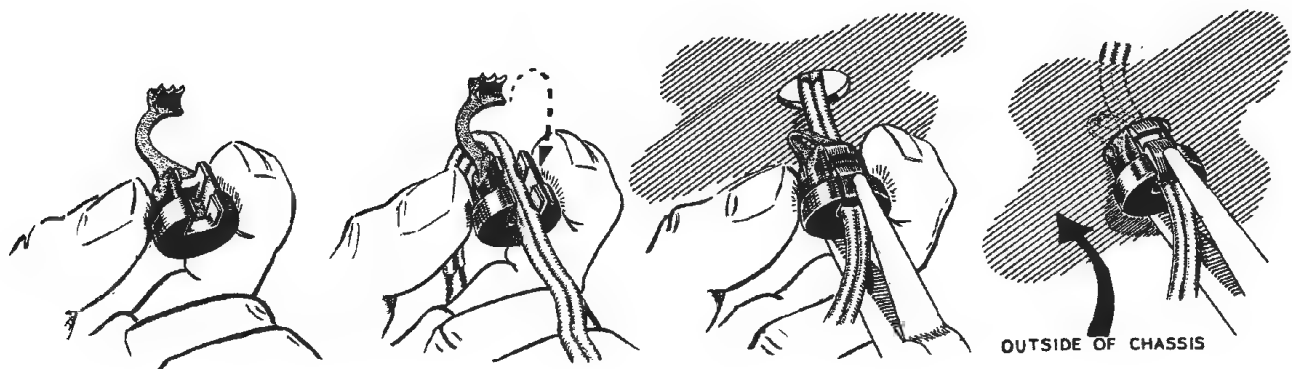

Figure 8
- () Install the line cord as shown in Figure 8. First tin leads and then connect one wire to lug 2 (S-3) and the other wire to lug 4 (S-3) of terminal strip N.